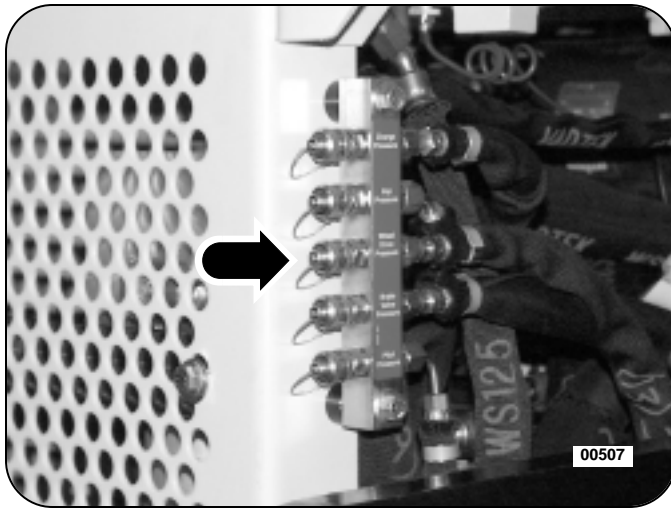

Figure 27: Wheel Drive Pump Pressure Gauge Port Tap
8. Connect the 10,000 psi pressure gauge, with the TIMBCO quick-couple adapter attached, to the gauge port tap provided on the centralized pressure check manifold. See Figure 27.